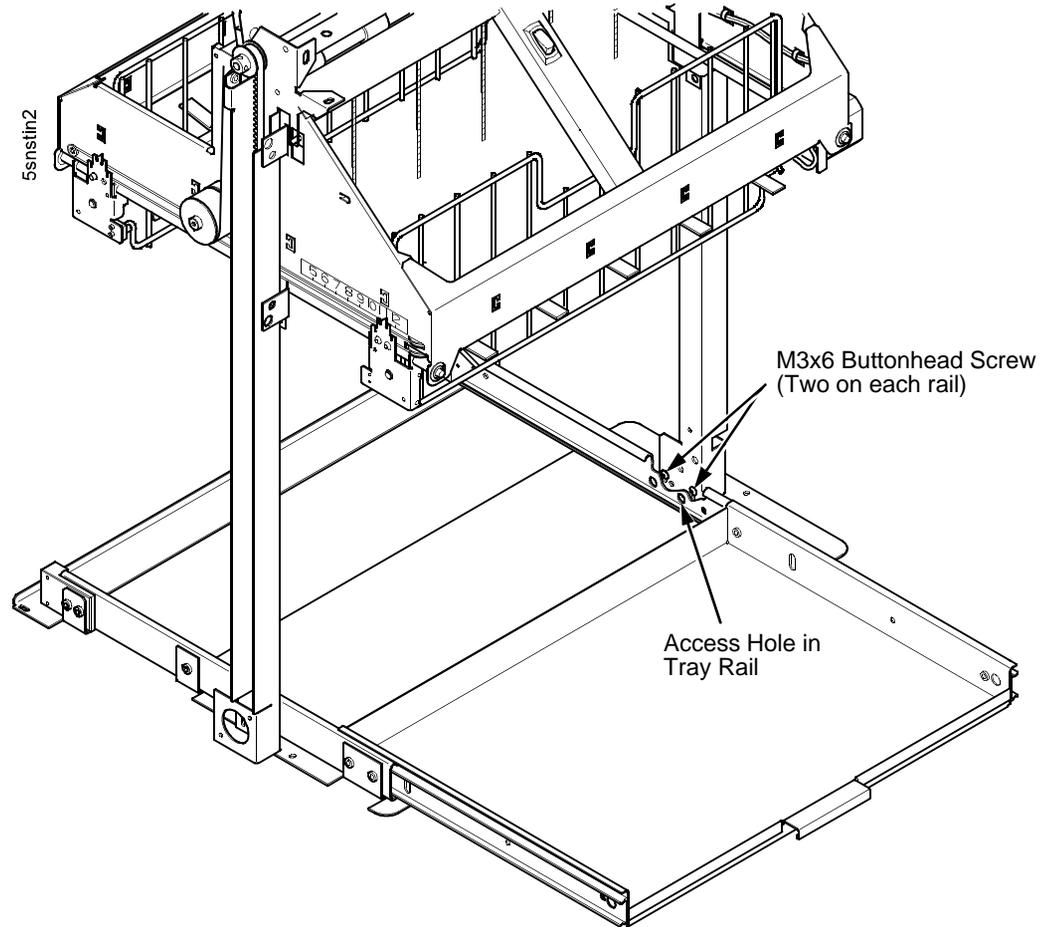

Figure 82. Loosening the Lower Screws in the Vertical Rails
11. Pull the paper tray out until the holes in the rails permit access to the M3 buttonhead screws. (Figure 82.)
12. Loosen one turn—do not remove—the M3x6 screws securing the vertical rails to the stacker base. Each rail is secured by two screws. (Figure 82.)